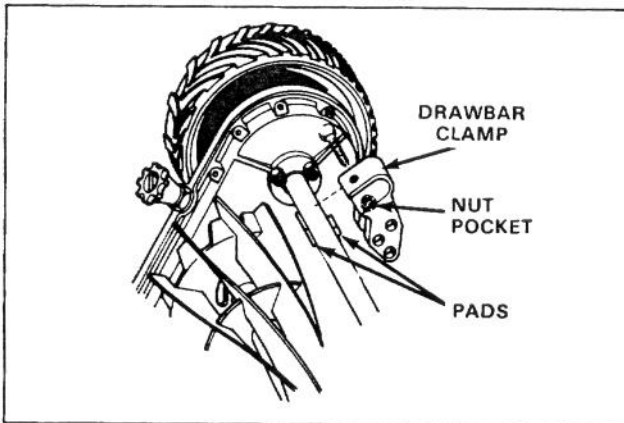

Figure 3
**Note:** If Spartan mowers are to be attached, drawbar clamps, part no. 5-1090 and mounting fasteners will be required to mount drawbar to cross tube of mower (Fig. 3). Contact your local Authorized Toro Distributor to order parts or for assistance.